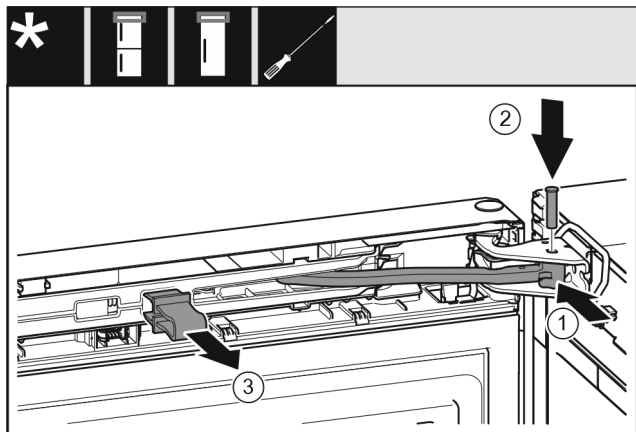

Fig. 25
- ▶ Turn the joint Fig. 25 (1) in the bearing block.
- ▶ Insert the bolt Fig. 25 (2) into the bearing bracket and joint. Ensure that the latching cam is in the groove properly.
- ▶ Remove the safeguard Fig. 25 (3).